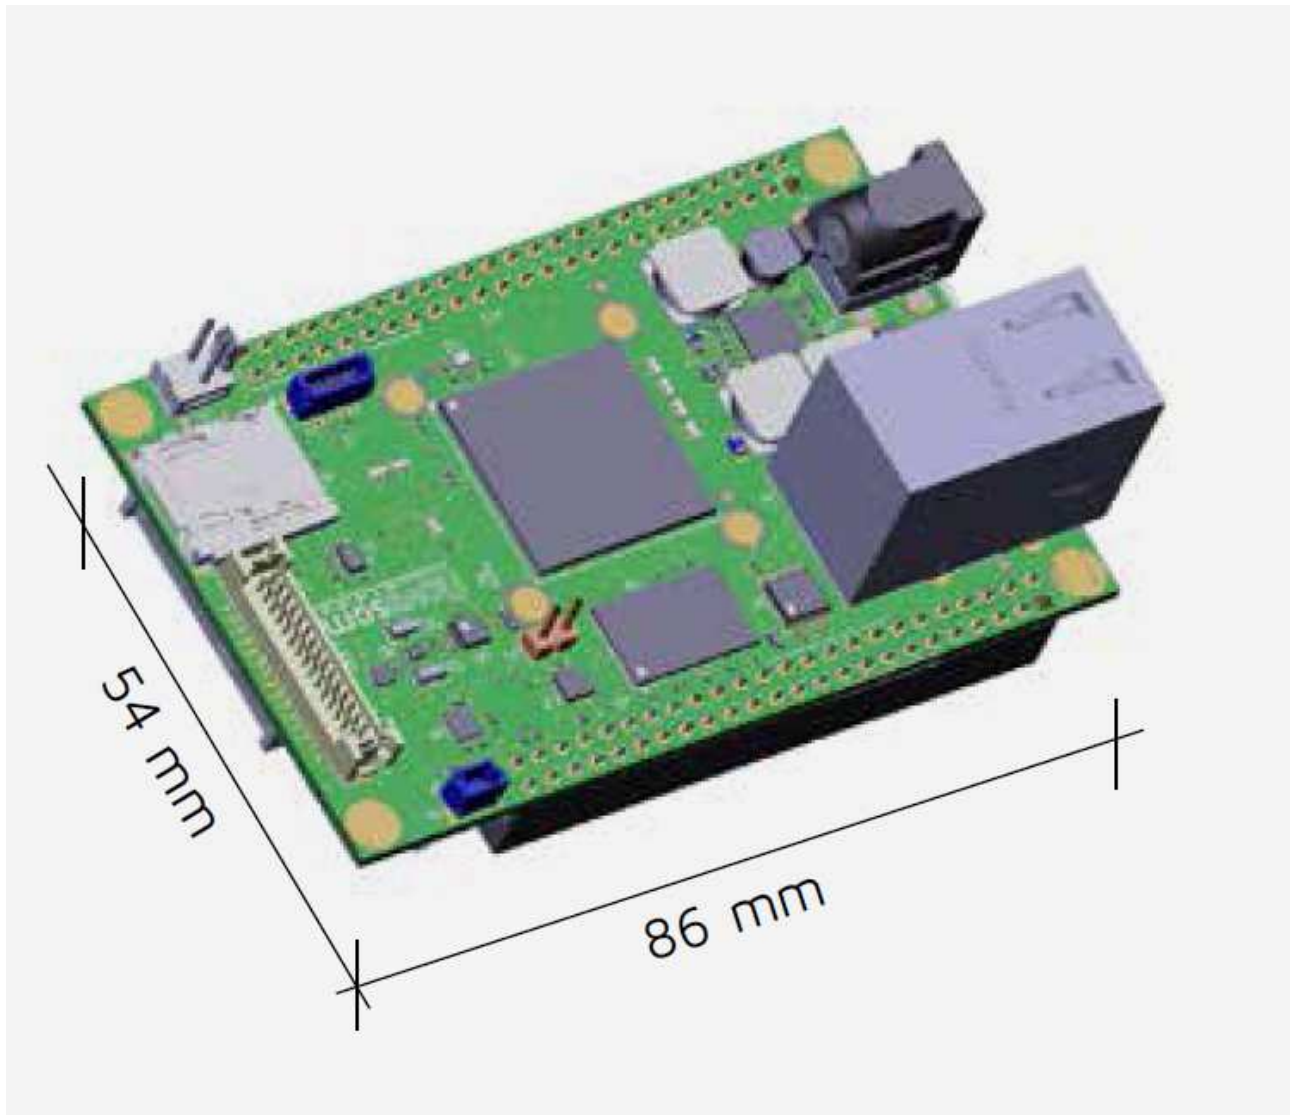

Figure 6 :The NOVASom U5 in 3D
- The USB OTG channel on J9 (USB_OTG_DN, USB_OTG_DP) has no power protections. There is no connections with the OTG ID signal, so it can be left floating on the connector side. The OTG can be driven using a schematic like the one in the following Figure 6 (Note : U1 is optional, the power on the V+ pin of the connector is powered from a 5V with a series 33 Ω) :